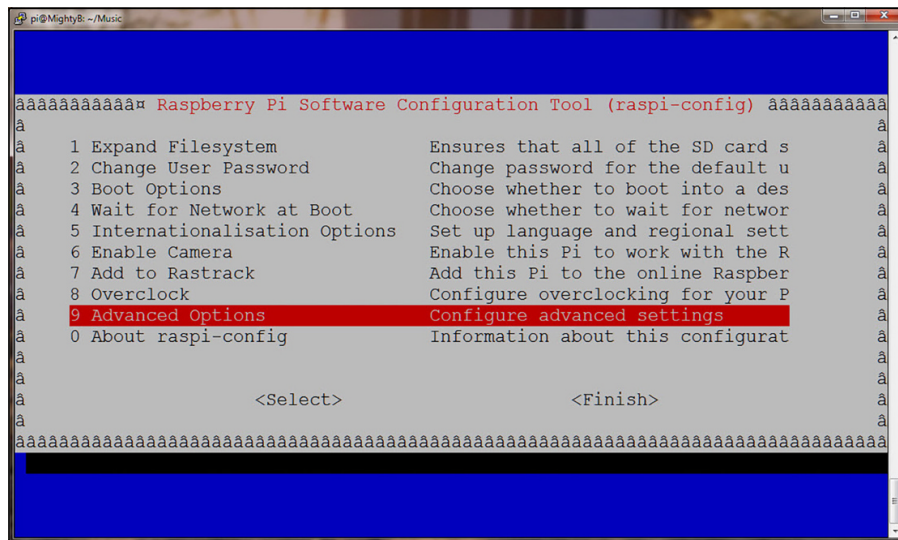

FIGURE 11-5: Raspberry Pi Software Configuration Tool
3. After the Raspberry Pi Software Configuration Tool screen appears (see Figure 11-5), use the down arrow key and select 9 Advanced Options. Press Enter.